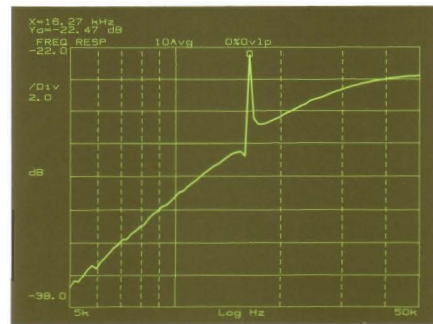

Figure 3-3
- 3. Start** Press the yellow **START** key. The results for the crystal resonator are shown in Figure 3-3.